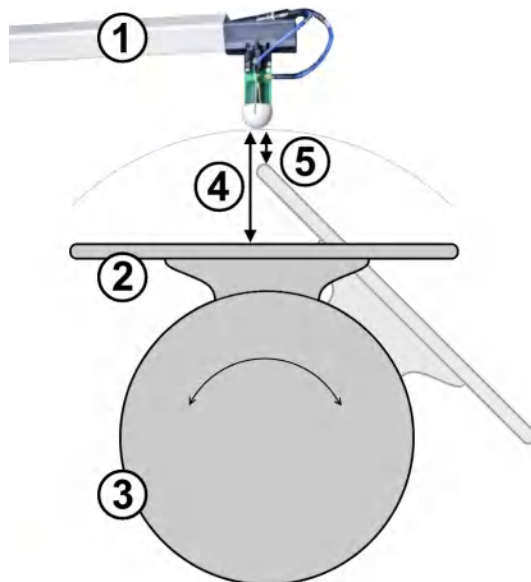

Figure 7-9: Top view of the turntable with mounted PCB holder set and antenna arm nearby
- The azimuth position, as shown in Figure 7-9